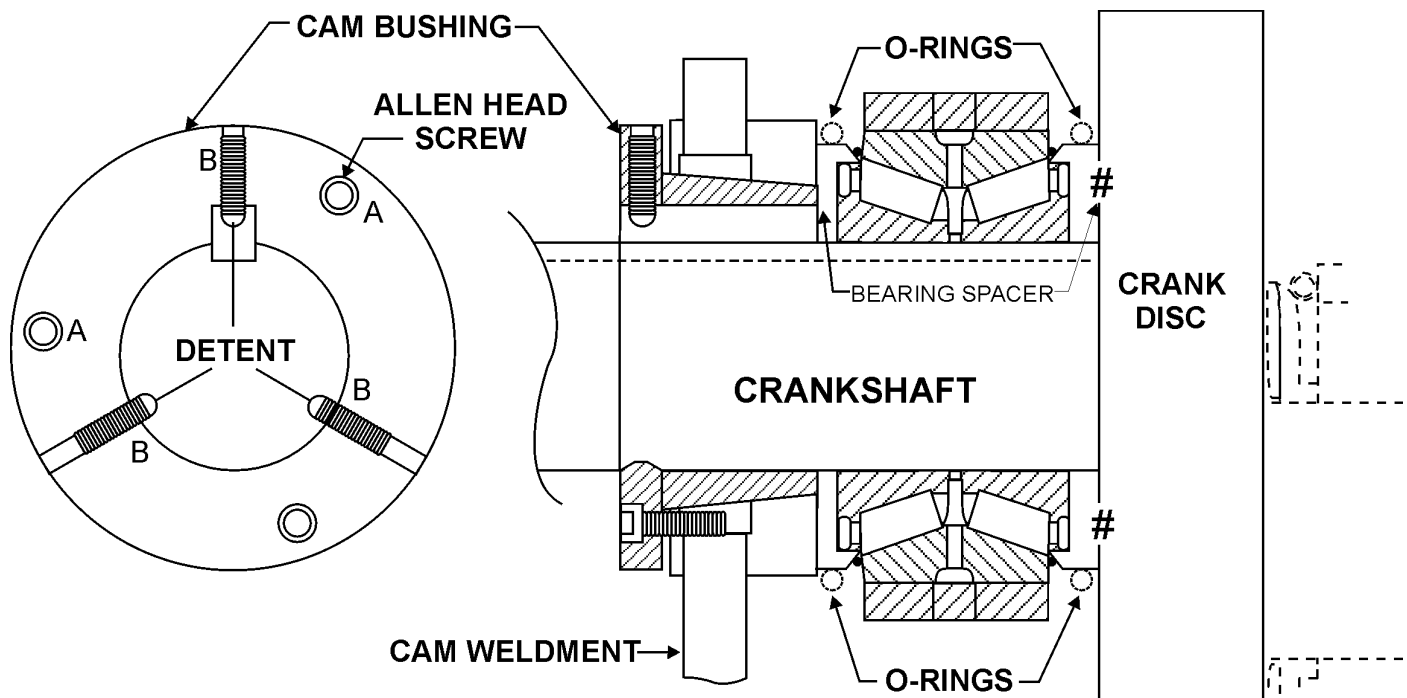

Figure 23. Bearing/Cam Bushing Installation
1. Install the bearing components on the crankshaft making full contact with the back side of the crank disc as indicated the symbol #. See Figure 23 below.
3. Tighten the 3 allen head bolts (A) while exerting pressure on the bushing towards the bearing spacer.